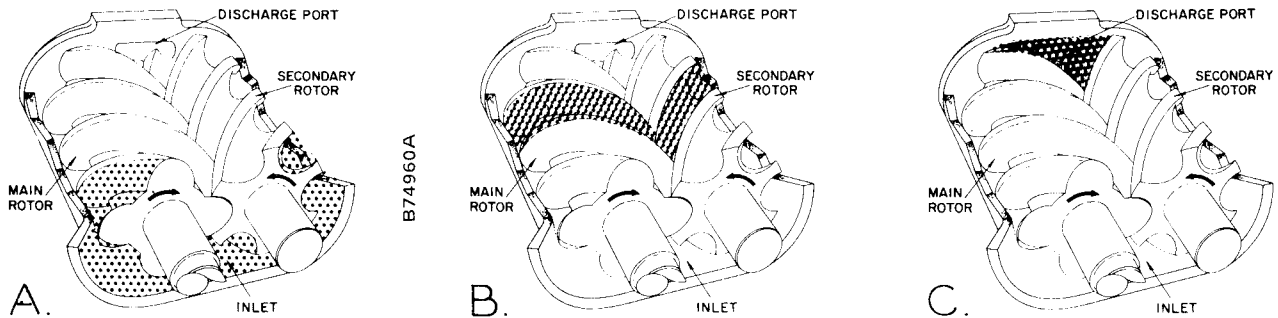

FIGURE 1-1. — COMPRESSION CYCLE
**COMPRESSION PRINCIPLE** (Figure 1-1) — Compression is accomplished by the main and secondary rotors synchronously meshing in a one-piece cylinder. The main rotor has four helical lobes 90° apart. The secondary rotor has six matching helical grooves 60° apart to allow meshing with main rotor lobes.
The air inlet port is located on top of the compressor near the drive shaft end. The discharge port is near the bottom at the opposite end of the compressor cylinder. Figure 1-1 is an inverted view to show inlet and discharge ports. The compression cycle begins as rotors unmesh at the inlet port and air is drawn into the cavity between the main rotor lobes and secondary rotor grooves (A). When the rotors pass the inlet port cutoff, air is trapped in the interlobe cavity and flows axially with the meshing rotors (B). As meshing continues, more of the main rotor lobe enters the secondary rotor groove, normal volume is reduced and pressure increases. Oil is injected into the cylinder to remove the heat of compression and seal internal clearances. Volume